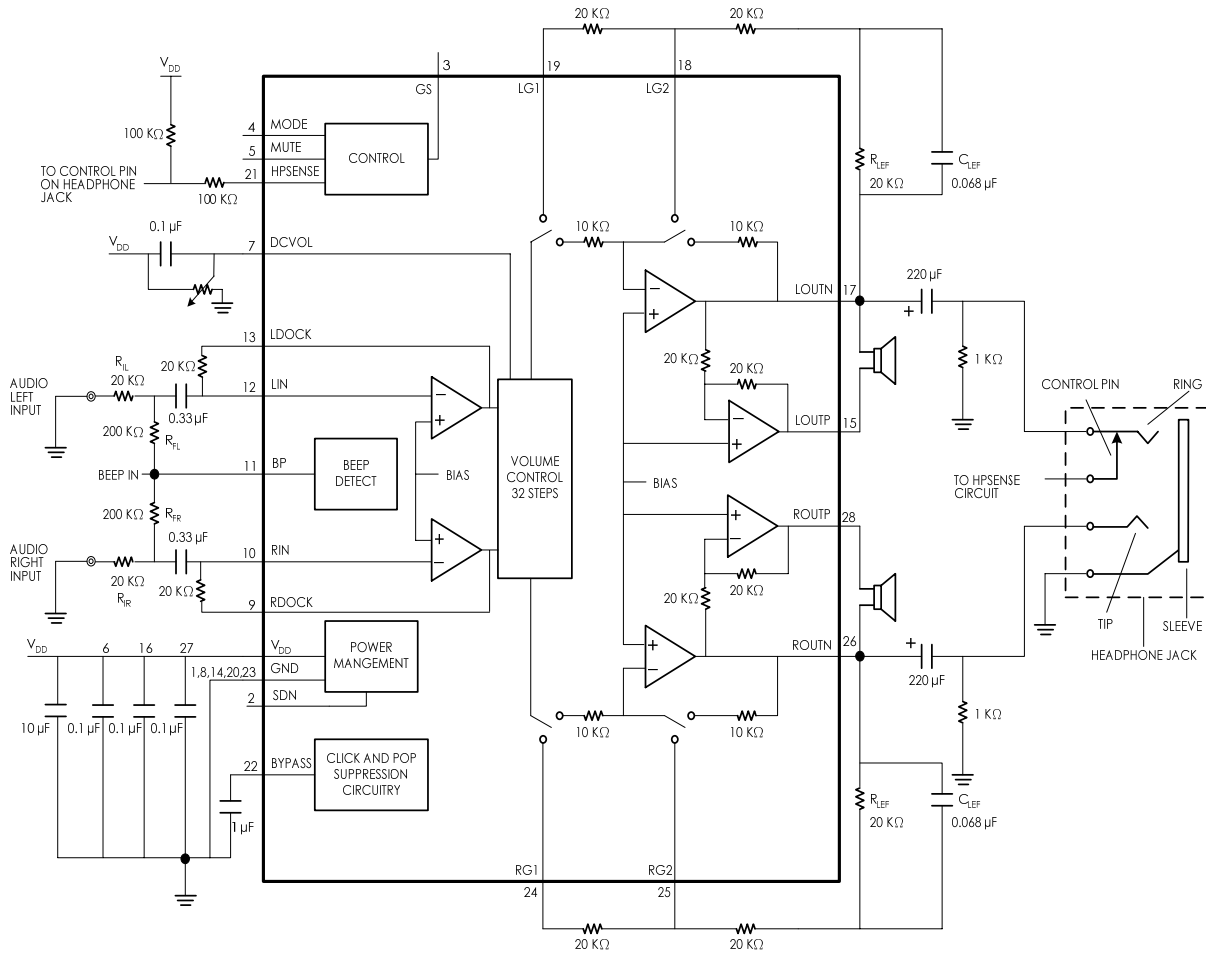

Figure 1. Typical Audio Power Amplifier Application Circuit
Note 4: All voltages are measured with respect to the ground pins, unless otherwise specified. All specifications are tested using the typical application as shown in *Figure 1*.
Amplifying the lowest audio frequencies requires high value input coupling capacitor (0.33 μ F in *Figure 1*). A high value capacitor can be expensive and may compromise space efficiency in portable designs. In many cases, however, the speakers used in portable systems, whether internal or external, have little ability to reproduce signals below 150 Hz. Applications using speakers with this limited frequency response reap little improvement by using large input capacitor.
As shown in *Figure 1*, the input resistor (20k Ω) and the input capacitor produce a -3dB high pass filter cutoff frequency that is found using Equation (1).
As an example when using a speaker with a low frequency limit of 150Hz, the input coupling capacitor, using Equation (1), is 0.063 μ F. The 0.33 μ F input coupling capacitor shown in *Figure 1* allows the EMA2202 to drive high efficiency, full range speaker whose response extends below 30Hz.
Since the DOCK outputs precede the internal volume control, the signal amplitude will be equal to the input signal's magnitude and cannot be adjusted. However, the input amplifier's closed-loop gain can be adjusted using external resistors. These resistors are shown in Figure 1 as 20kΩ devices that set each input amplifier's gain to -1. Use Equation 2 to determine the input and feedback resistor values for a desired gain.